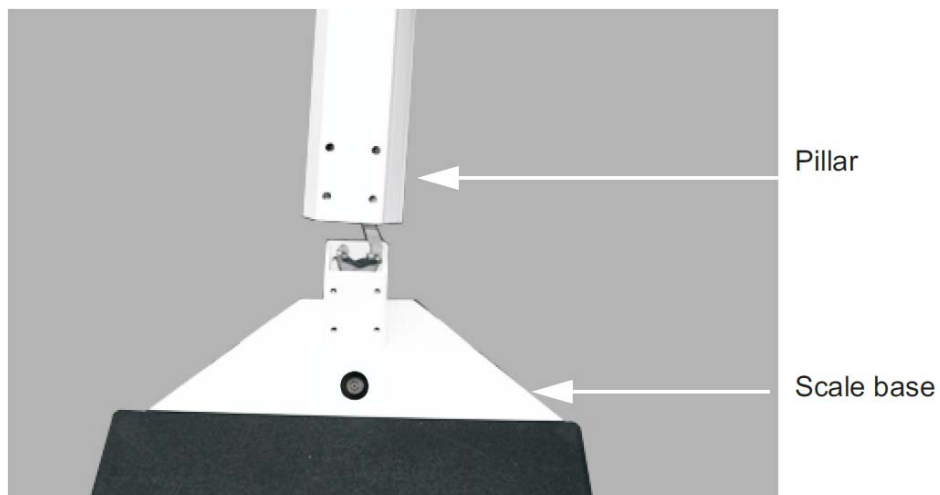

Figure 2. Attach the Pillar to the Scale Base
3. Insert the pillar into the scale base (shown in Figure 2), ensuring that the Global logo on the weight beam faces the scale base.